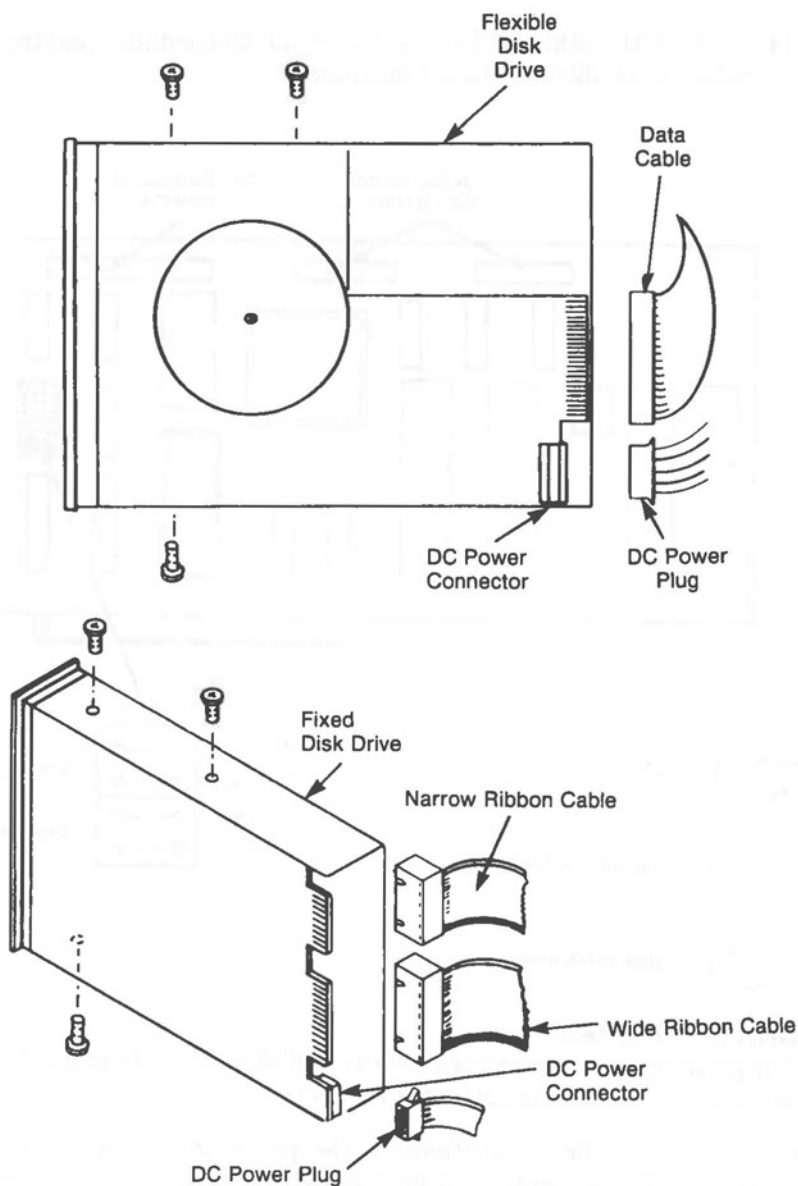

Figure 3-42 Ribbon Cable and Power Harness Removal
2. Disconnect the ribbon cables and the DC power plug from the drive (see Figure 3-42).